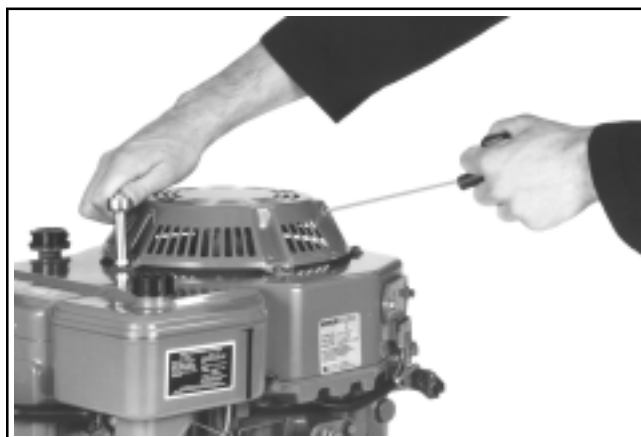

Figure 11-70. Installing Retractable Starter.
2. Pull the starter handle out until the pawls engage in the drive cup. Hold the handle in this position and tighten the screws securely. See Figure 11-70.